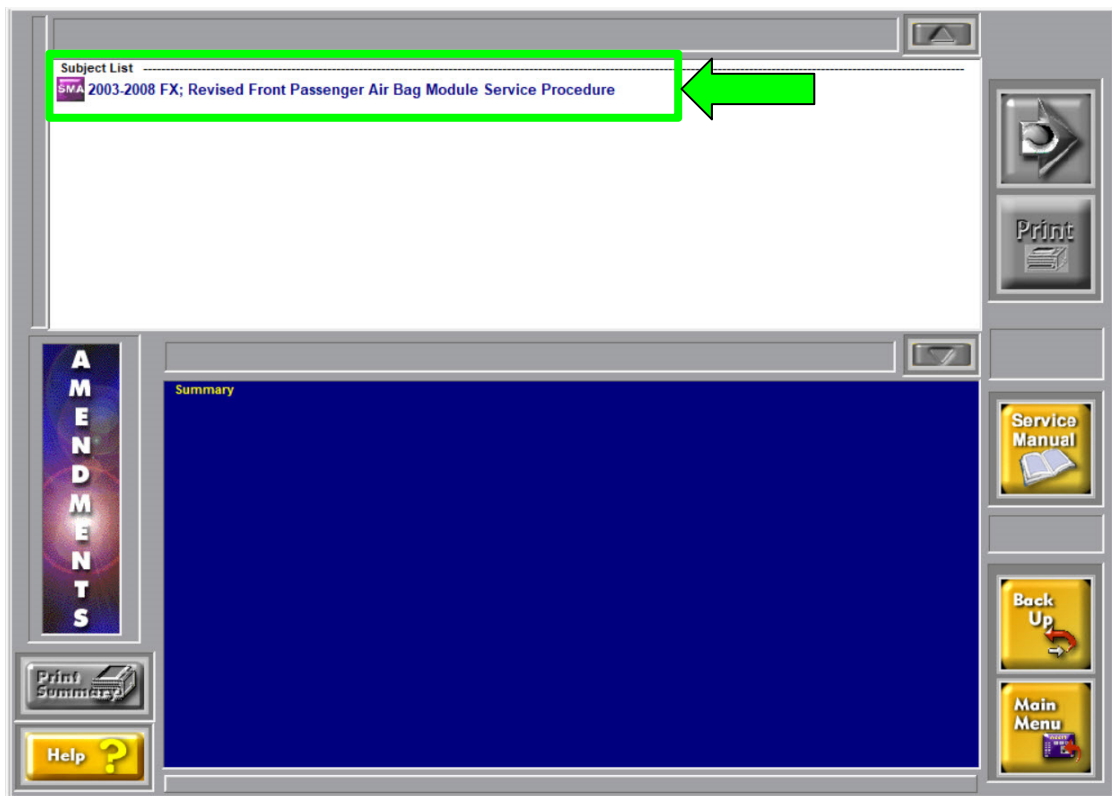

Figure 10
- On the next screen, select "SMA 2003-2008 FX; Revised Front Passenger Air Bag Module Service Procedure" (Figure 10).